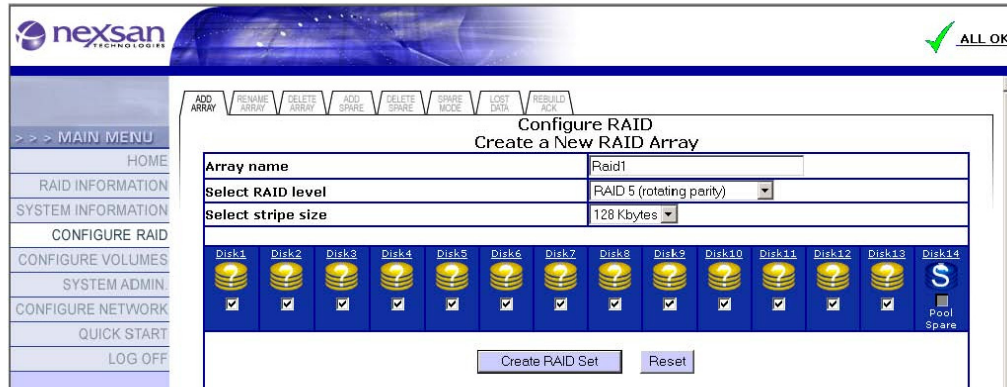

Figure 10
6. Add Raid Array. (See Figure 10)